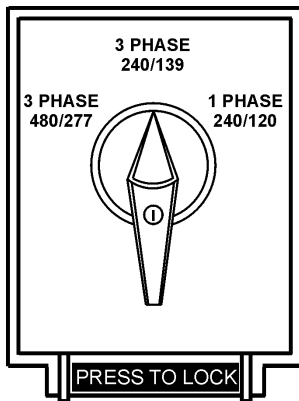

Figure 13. Voltage Selector Switch
A wide range of voltages are available to supply voltage for many different applications. Voltages are selected by using the **voltage selector** switch (Figure 13). To obtain some of the voltages as listed in Table 8 will require a fine adjustment using the **voltage regulator (VR) control knob** located on the control panel.
The **voltage selector** switch (Figure 13) is located above the UVWO Hard Wire Hook-up Panel. It has been provided for ease of voltage selection.